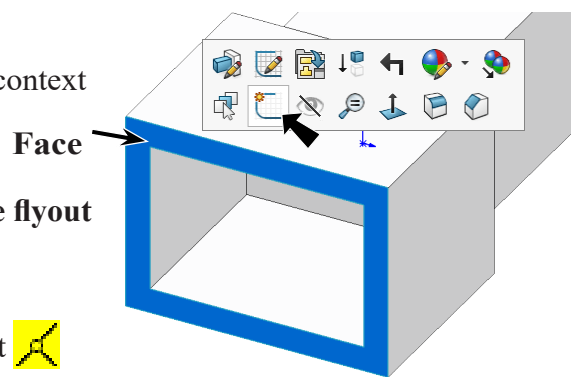

Fig. 14
Step 1. Click **front face** and click **Sketch**  on the context toolbar, **Fig. 14**.